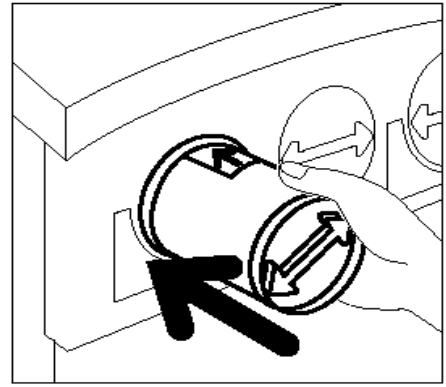

Figure 12: Aligning the Cartridge arrow and sliding the Cartridge into the copier/printer
- 7** Align the arrow on the cartridge with the raised arrow at the top of the opening, and slide the cartridge into the copier/printer, as illustrated in Figure 12.